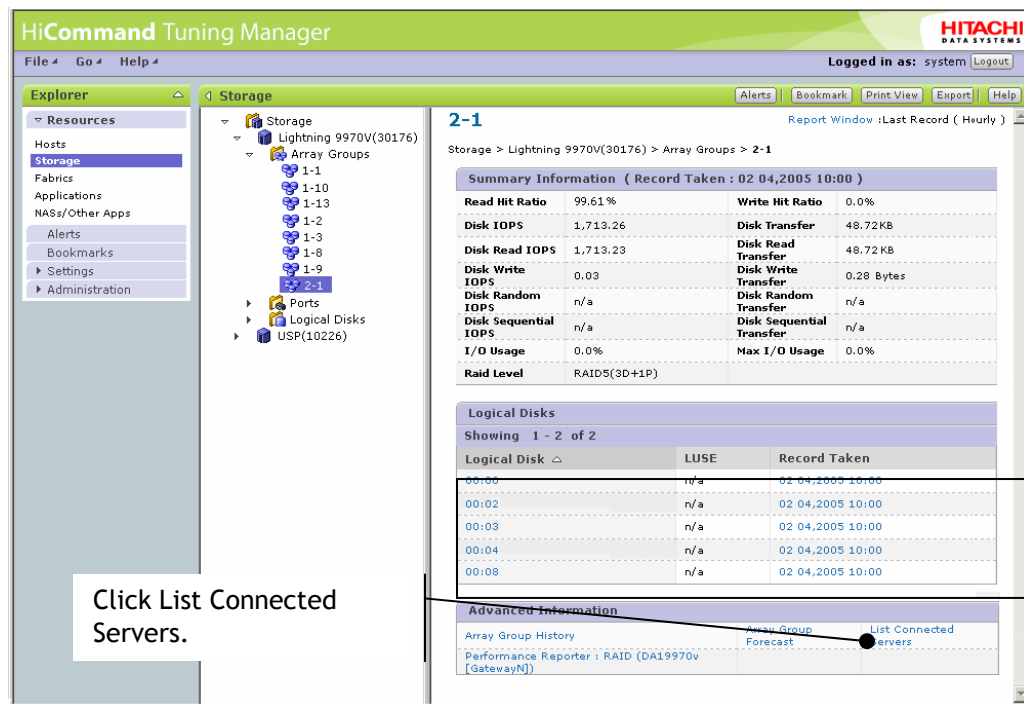

Figure 5.7 Main Console Showing the Summary of Array Group #2-1
4. Use Main Console to check the performance of the resources sharing the array group. In Main Console, show the summary of Array Group #2-1. Figure 5.7 shows the Report area displaying the summary of Array Group #2-1.